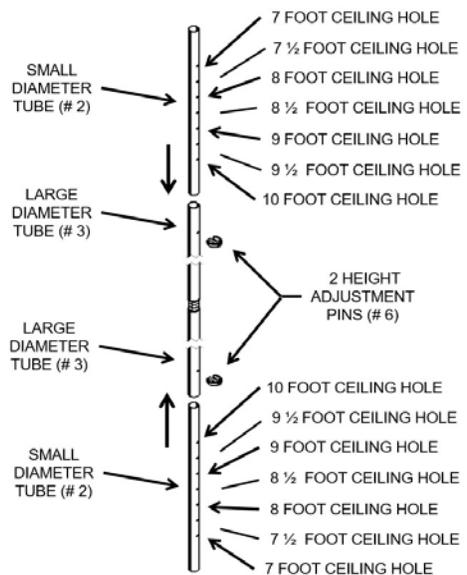

**FIGURE 3**
3. Insert the **THREADED ADJUSTMENT ASSEMBLY** shown in **Figure 2** into the **LARGE DIAMETER TUBES (#3)** as shown in **Figure 3**.